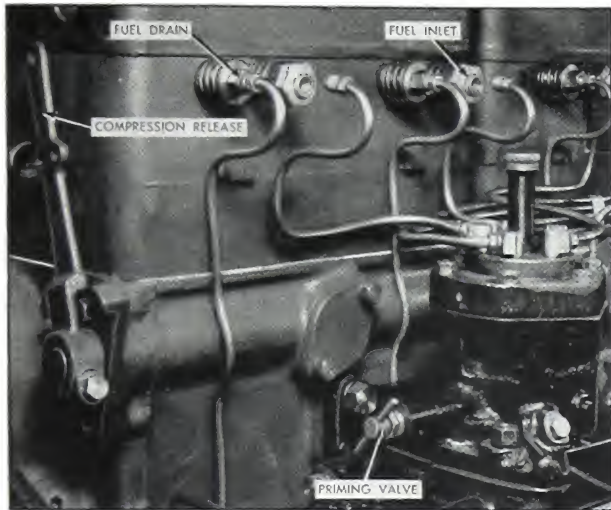

Fig. 12-34. Position for priming engine
7. Disconnect all injector fuel supply tubes. (Fig. 12-34). Open priming valve approximately two turns. This valve is solely for the purpose of priming, as it by-passes the fuel around the metering pump.